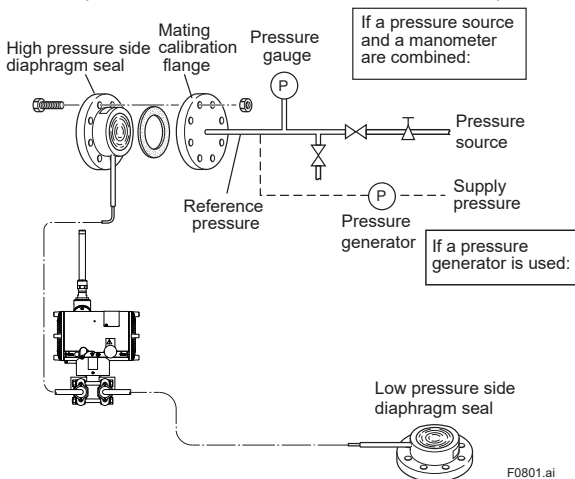

Figure 8.1 Instrument Connections
- 3) Connect the devices as shown in Figure 8.1 and allow the transmitter to warm up for at least 5 minutes.